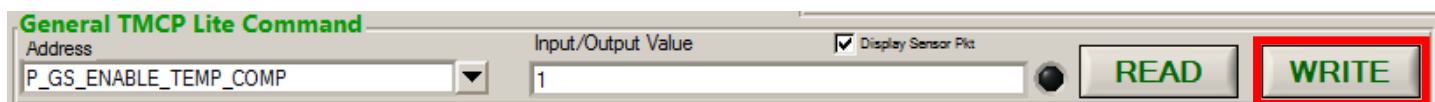

Figure 19 P_Setting P_GS_ENABLE_TEMP_COMP to 1
- 5) Using alignment software set Address box to "P_GS_ENABLE_TEMP_COMP" and Input/output Value box to 1 and click "WRITE" (Figure 19) and Type "P_GS_TUNE_VOLTAGE" and Click "READ" to verify that the value of changes from its previous value in step 4.